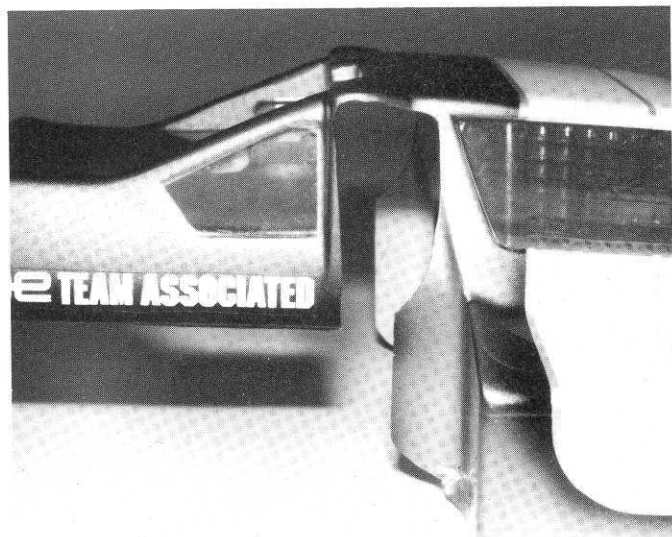

Fig. 132
□ **Fig. 132** The rear of the body must be trimmed like this to clear the shocks.